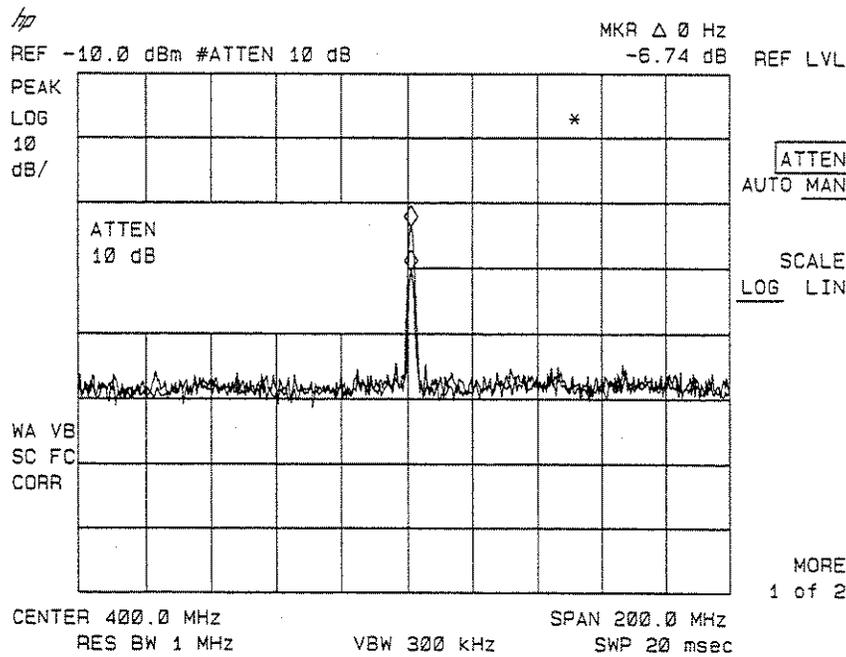
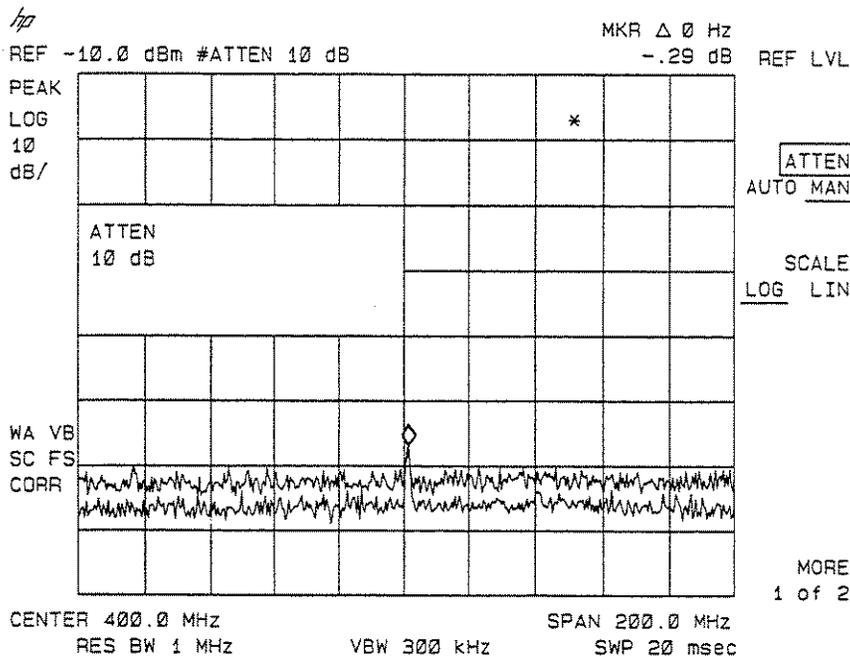

Figure 2-22. RF Attenuation of 10 dB
Figure 2-23. No Harmonic Distortion
5. Next, increase the RF attenuation by 10 dB: press **AMPLITUDE**, **ATTEN AUTO MAN**, and the step-up key (**▲**) once. (See Figure 2-22.)
If the responses in trace A and trace B differ, as in Figure 2-22, then attenuation is required. If the distortion is not caused internally, there is no change in the signal level. For example, the signal amplitude in Figure 2-23 is not high enough to cause internal distortion in the analyzer.